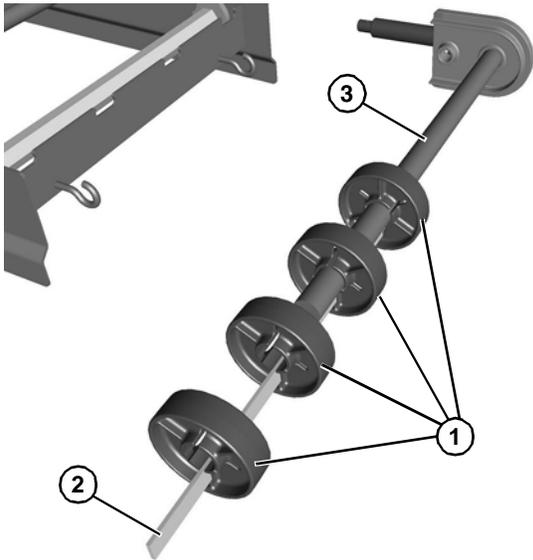

**Figure 66**
- Remove the shaft assembly (**Figure 66, item 1**) from idler shaft (**Figure 66, item 2**) and pinch guard shaft (**Figure 66, item 3**).
- Remove tracking plate (**Figure 66, item 4**) from idler shaft and pinch guard shaft.
- Remove pinch guard shaft (**Figure 66, item 2**).